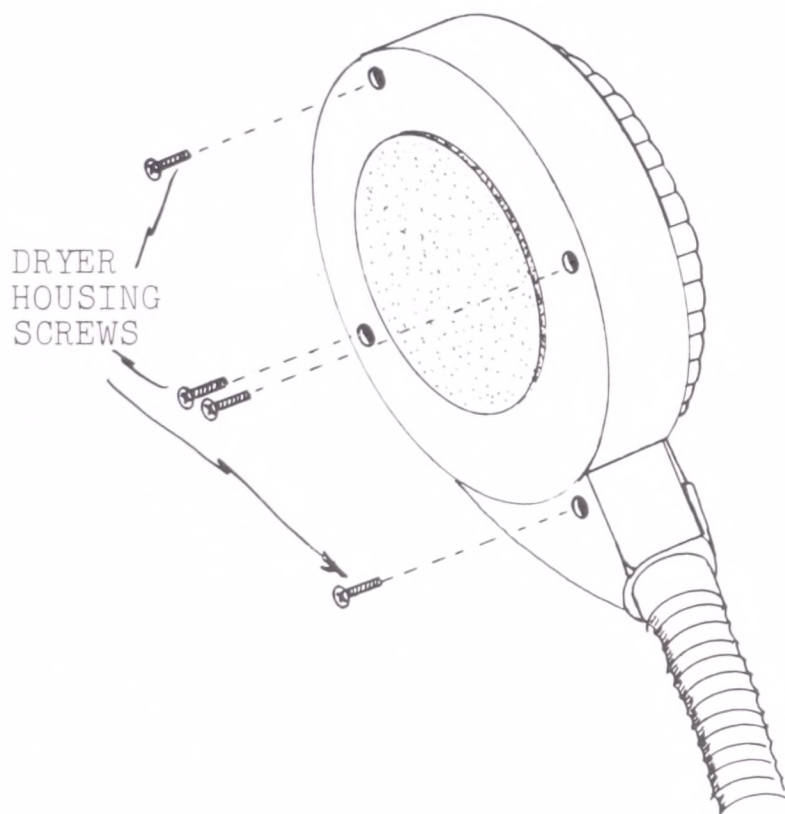

FIG. 2
5. To disconnect the hose, remove the dryer housing screws with a screwdriver. (*Figure 2*)
9. Lift top half of housing up (after housing screws have been removed, *Figure 2*) to remove it. (*Figure 5*)